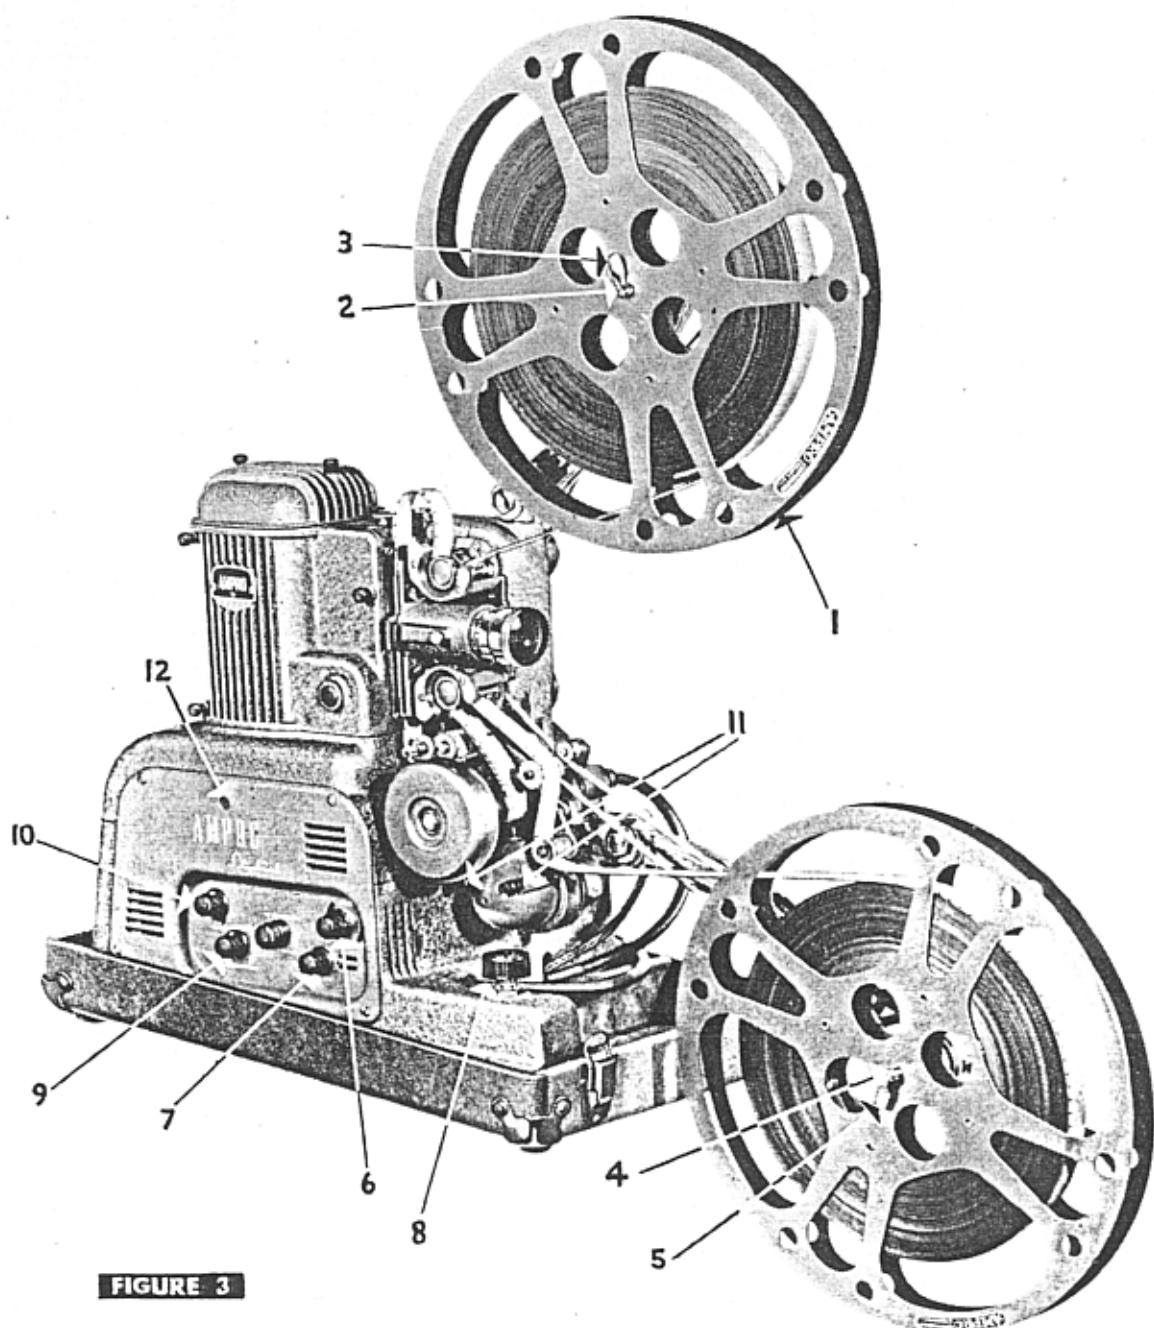

FIGURE 3
1. Place the reel of film which is to be projected (1 Fig. 3) on the feed spindle (2 Fig. 3) and fold over the reel lock finger (3 Fig. 3).
2. Place an empty reel of suitable capacity on the takeup spindle (4 Fig. 3) and fold over the reel lock finger (5 Fig. 3).
1. Turn the speed control knob (6 Fig. 3) as far as it will go in the direction marked "Sound."
2. Turn the motor control knob (7 Fig. 3) to the position marked "Motor." If the film feeds through the projector properly turn the knob to the position marked "Lamp," if not, turn the knob back to the "Off" position and re-check the threading.
5. If the picture is too high or too low, rotate the tilt knob (8 Fig. 3) to position it on the screen.
6. If silent film is being projected, turn the speed control knob (6 Fig. 3) toward the "Silent" position until proper rate of screen action is obtained.
7. If sound film is being projected turn the Volume Control (9 Fig. 3) clockwise until the proper volume level is established, then adjust the "Tone Control" (10 Fig. 3) to obtain satisfactory reproduction of sound.
8. When "The End" trailer appears on the screen turn the motor control switch (7 Fig. 3) to the "Motor" position and turn down the volume. When all of the film has passed through the projector turn the control switch to the "Off" position.
2. Turn the control switch (7 Fig. 3) to the "Motor" position.
- a. Projection Lamp—Remove the two cover screws (6) and lift off the lamp house top (7). Press downward on the lamp and turn it 90 degrees counterclockwise; this will release the lamp so that it may be removed from the lamp house. To replace the lamp reverse the procedure. Note: One of the flanges on the lamp base is wider than the other—line up the flanges with the corresponding slots in the lamp socket when replacing the lamp.
- b. Exciter Lamp—Remove the two cover screws (11 Fig. 3) and the exciter lamp cover—rotate the lamp to release it from the socket. Note: The slots in the exciter lamp base are not equally spaced—when replacing the lamp be sure to position the base so that the three slots line up with the pins in the socket.